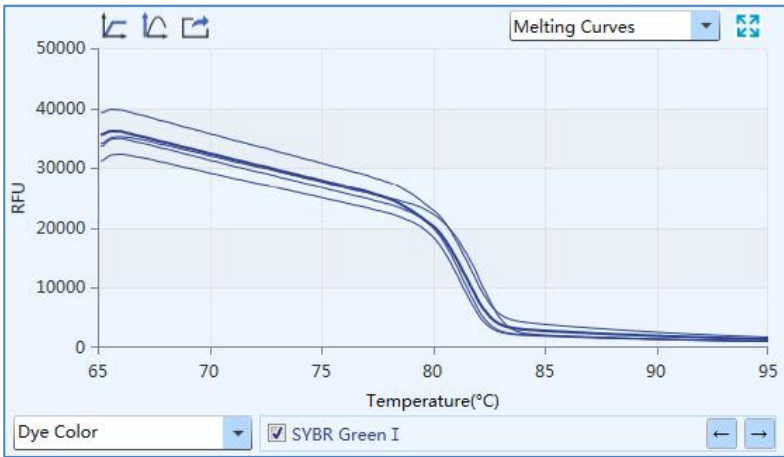

Figure D-13.1 Melting Curves analysis interface - Melting Curves functional module
I. ***Melting Curves***: display the fluorescence intensity against the temperature, as shown in figure D-13.1.